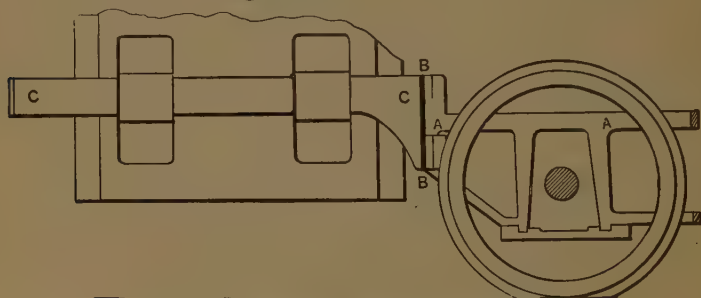

Fig. 115. Frame for Narrow-gage Engines.
A. That there is not enough room for the fire-box between the frames; and it must be made very narrow, unless the frames are made with an offset or cross-plate projecting outside of the wheels as shown in figures 115 and 116, in which B B is the cross-plate, bolted to the back ends of the arms; two